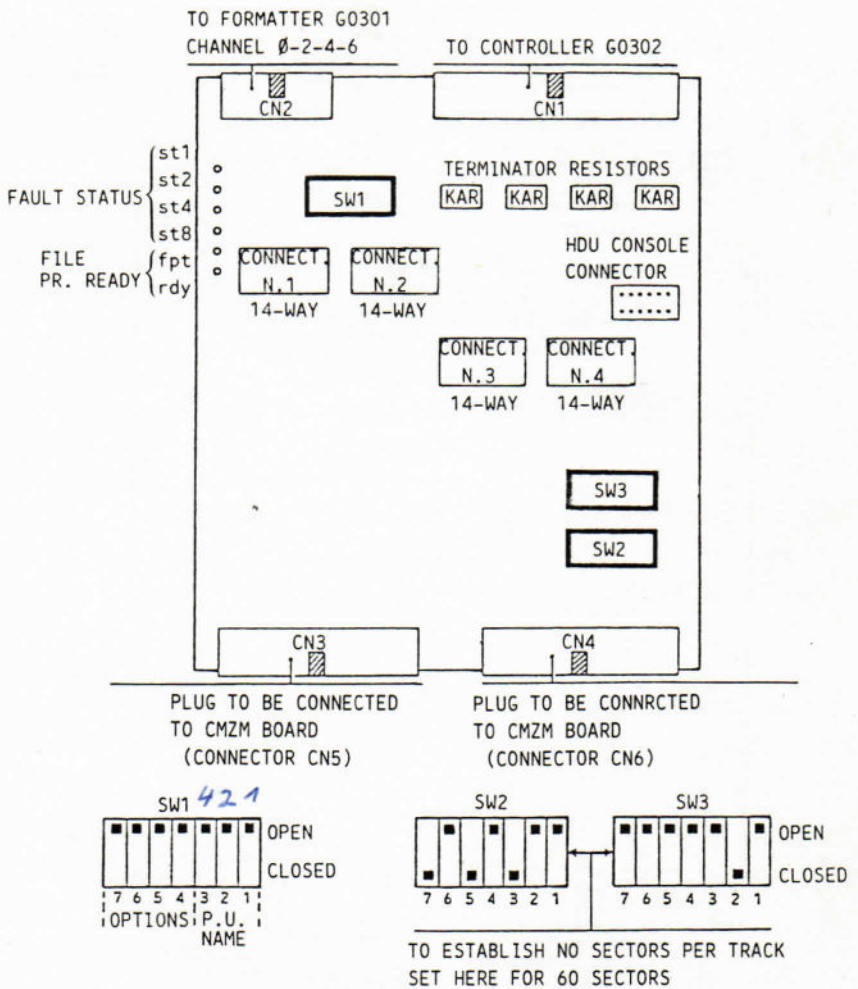

Fig. 5-13 Diagram of CNAM board and settings
N.B.: The CNAM and DUAL-PORT boards will be seen in greater detail in figures 5-13 and 5-15.
N.B.: - The CNAM and Dual-Port boards will be seen in greater detail in figures 5-13 and 5-15.